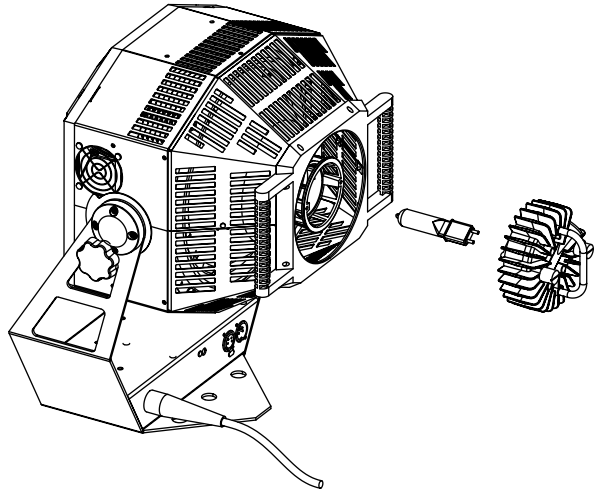

Figure 2-1 Removing the lamp
4. Gently remove the socket housing from the reflector mount, exposing the lamp as shown in Figure 2-1.